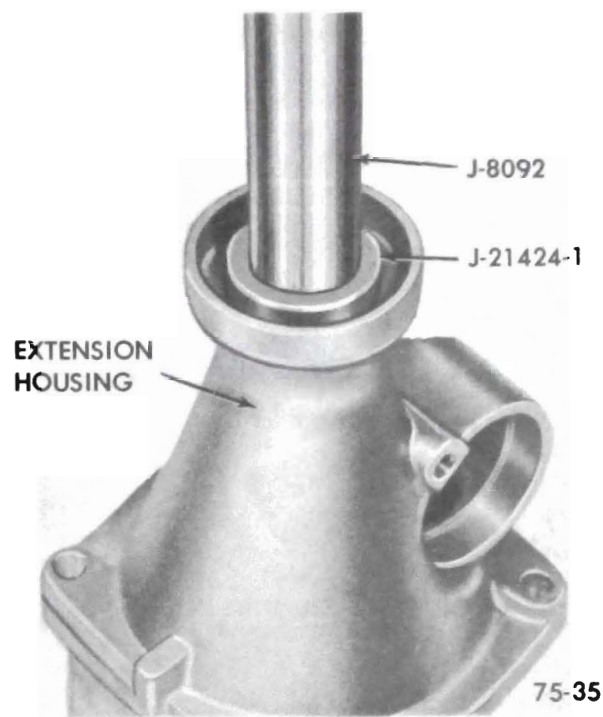

Figure 75-77
1. Install extension housing bushing using Drive Handle J-8092 and Bushing Tool J-21424-1. See Figure 75-77.